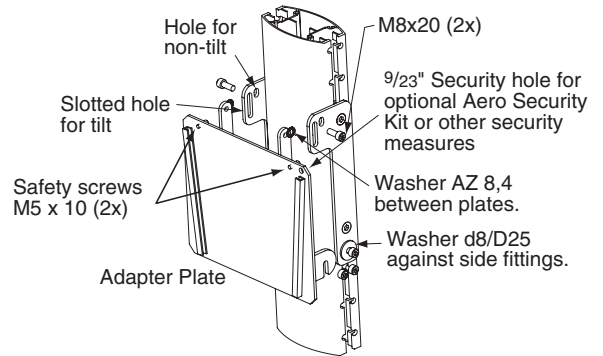
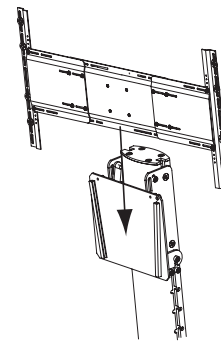

Figure 2
Figure 3
- ⑦ Attach universal plasma or plasma specific bracket to display using enclosed screws and washers (see separate instructions).
- ⑧ Hook adapter plate onto M8 x 20 screws on side fittings. Make sure washers are tight against the fittings. Fasten screws, making sure that washers are between the plates (see Fig. 2).
- ⑨ PLEASE NOTE: This step requires two people. Hook display with bracket onto the adapter plate (see Fig. 3). Tilt display to desired position and re-tighten all screws. Lock the plasma bracket by turning the M5 x 10 screws toward the display. Cover the bolt heads with plastic covers (see Fig. 2).